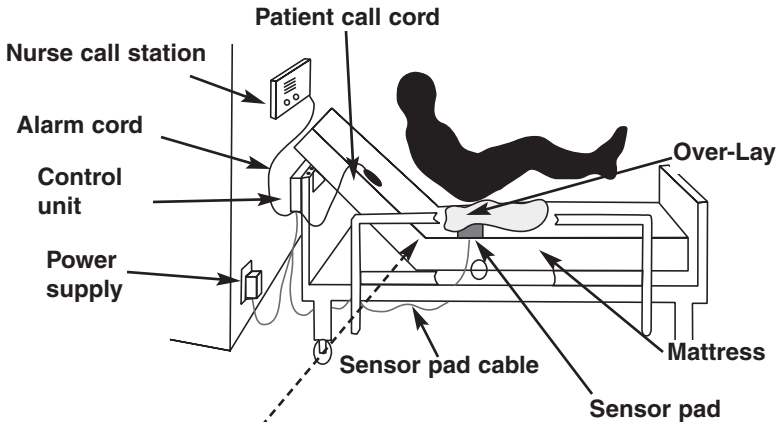

Figure 3
1. Place the sensor pad across the width of the bed and under any sheets, overlays, or incontinence pads (**Figure 3**). Placement needs to be under the patient's or resident's buttocks area. If early detection is necessary, place the sensor pad behind the patient's or resident's back.